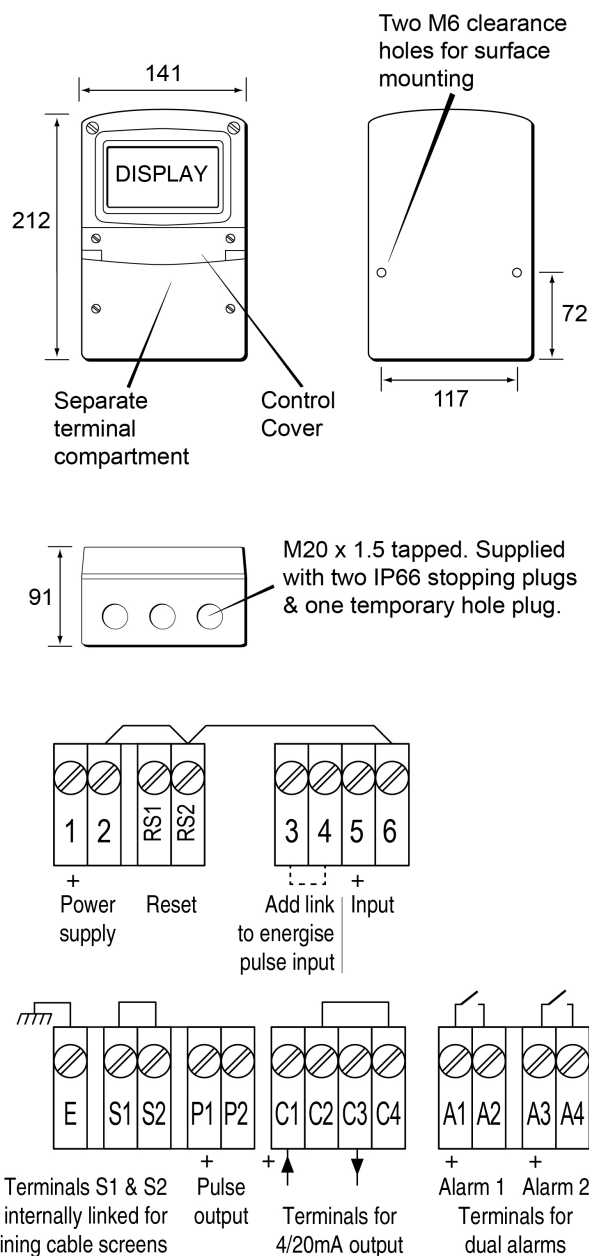

Fig A4.2 Dimensions and terminal connections
- Connect the field wiring to the terminals as shown in Fig A4.2.